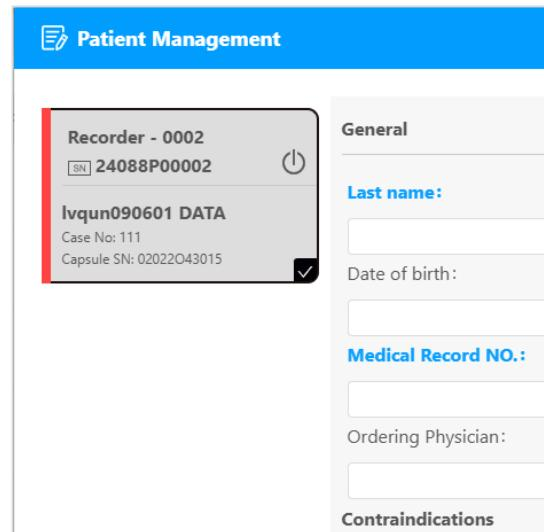

Figure 3-5 Data Recorder Has Been Correctly Connected to the Computer
4) Click [Patient Management] on the home page to open the tab (Figure 3-5) and check if the data recorder appears in the list on the left side. If the data recorder shows up in the list, it indicates that the data recorder is correctly connected to the computer.